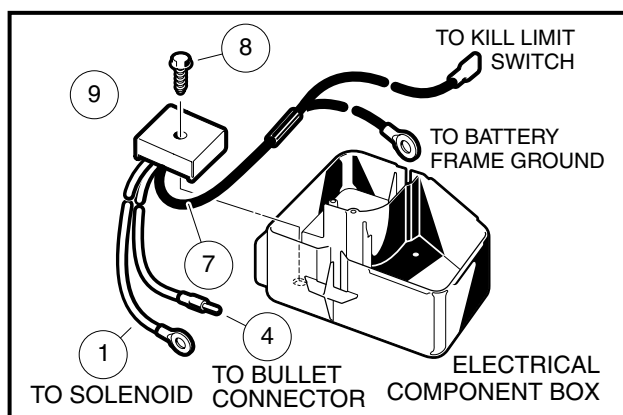

Figure 12b-16 Voltage Regulator
1. Position the voltage regulator (9) in the electrical component box and install the mounting screw (8) and tighten screw to 23 in-lb (2.6 N·m) (**Figure 12b-16, Page 12b-11**).
2. Connect the voltage regulator red wire (1) at the large post on the solenoid with the other red wires, the yellow wire (4) at the bullet connector and the black wire (7) at the wire harness and the battery frame ground (**Figure 12b-16, Page 12b-11**).
3. Install electrical component box cover. Be sure to firmly press down all corners. Install screw and tighten to 18 in-lb (2 N·m) (**Figure 12b-19, Page 12b-15**).